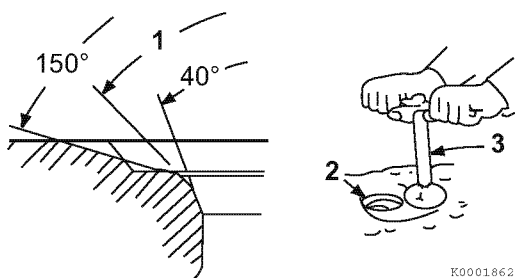

Figure 6-24
Light cutting can be performed by the use of a hand-operated cutter (**Figure 6-24, (3)**).
The valve seat diameter can be adjusted by top-grinding with a 150° stone to make the seat diameter smaller, and bottom-grinding using a 40° stone to make the seat diameter larger. Once the seat location has been corrected, grind and lap the seat angle (Figure 6-24, (1)) to specification. See *Cylinder Head* on page 6-4 for specifications.